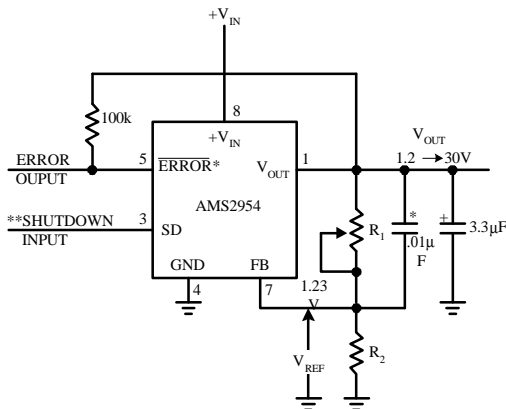

FIGURE 2. Adjustable Regulator
*When $V_{\text{IN}} = 1.3\text{V}$ the error flag pin becomes a high impedance, and the error flag voltage rises to its pull-up voltage. Using V_{out} as the pull-up voltage (see Figure 2), rather than an external 5V source, will keep the error flag voltage under 1.2V (typ.) in this condition. The user may wish to drive down the error flag voltage using equal value resistors (10 k Ω suggested), to ensure a low-level logic signal during any fault condition, while still allowing a valid high logic level during normal operation.
The AMS2954 may be pin-strapped for the nominal fixed output voltage using its internal voltage divider by tying the output and sense pins together, and also tying the feedback and V_{TAP} pins together. Alternatively, it may be programmed for any output voltage between its 1.235V reference and its 30V maximum rating. As seen in Figure 2, an external pair of resistors is required.